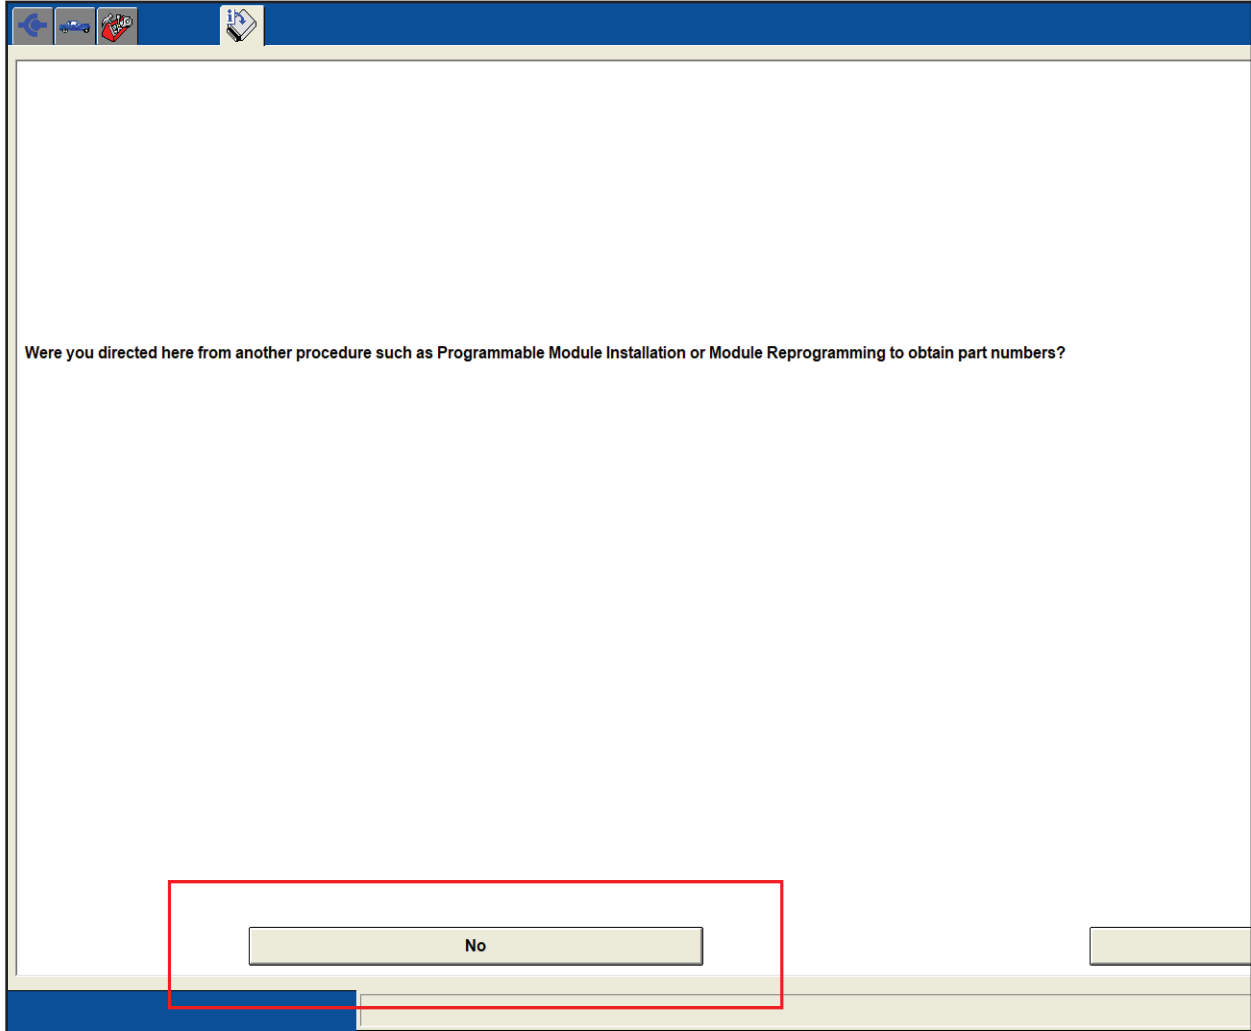

FIGURE 1A
- When prompted: Were you directed here from another procedure such as Programmable Module Installation or Module Reprogramming to obtain part numbers? Select NO. See Figure 1A.